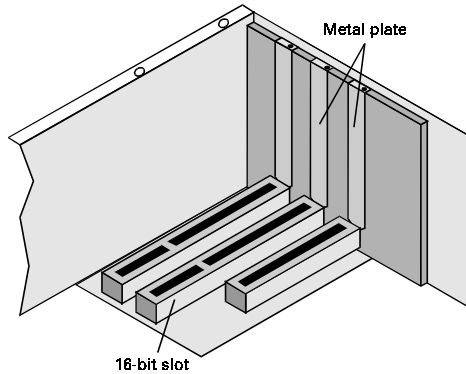

Figure 2-13: Locating a vacant slot.
1. Locate a vacant 16-bit slot in your system (see Figure 2-13).